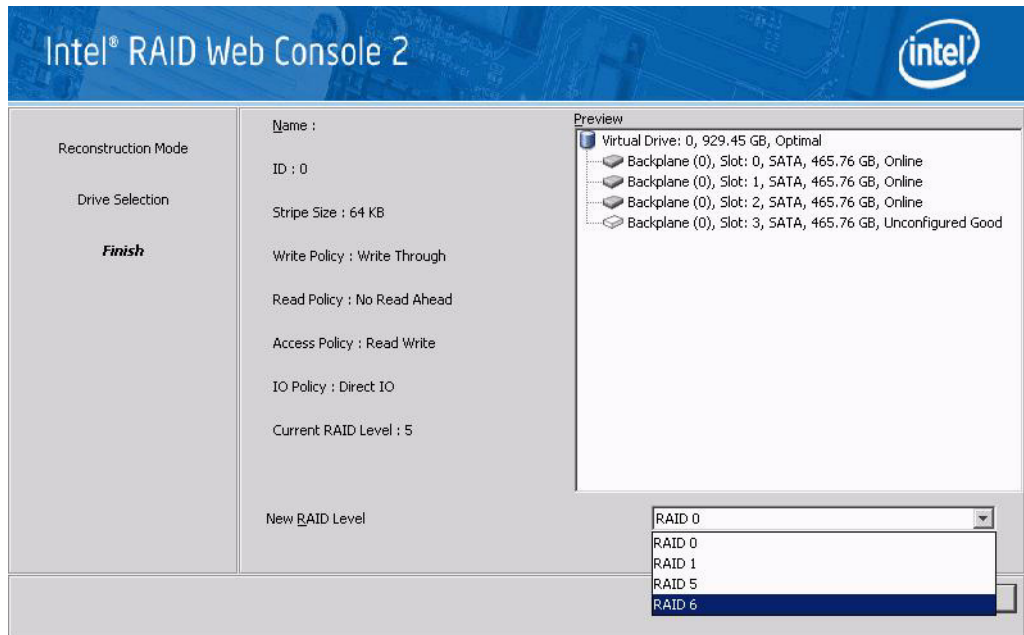

Figure 64. Changing RAID Level
5. When you are finished adding disk drives, click **Next**. The next screen displays, which allows you to select and change the RAID level as shown in Figure 64.